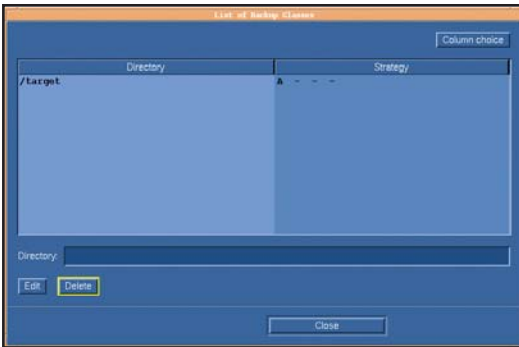

Figure 8. List of backup classes (no additional backup server).
- > Define the backup class (**Figure 8**)